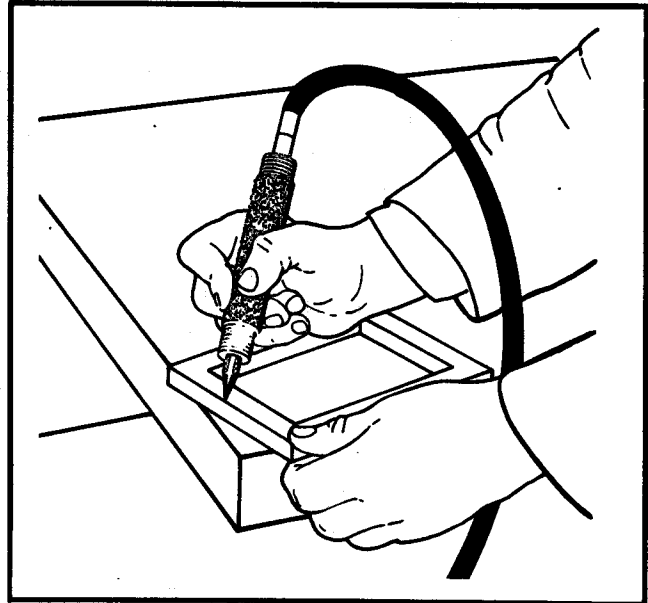

FIG. 24. USING ETCHING PENCIL WITH BAND SAW.
- (1) Clamp pencil's cable end in the left hand (stationary) jaw.
- (2) Set anneal selector switch in position according to heat desired.
- (3) Push anneal switch button "in" firmly. Lock with thumb screw.
- (4) To etch with band saw machine welder: Place work to be marked on machine table. Since the machine is "grounded", there is no second lead required to the work. See Fig. 24.